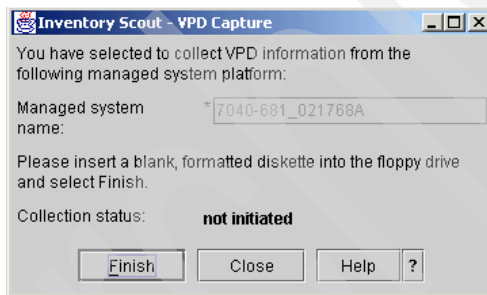

Figure 11-7 Inventory Scout: VPD Capture
4. As shown in Figure 11-7, you will be prompted to insert the formatted diskette into the diskette drive on the HMC. (To format the diskette, see “Format Removable Media” on page 116.) Once you have inserted the diskette into the drive, click **Finish**.